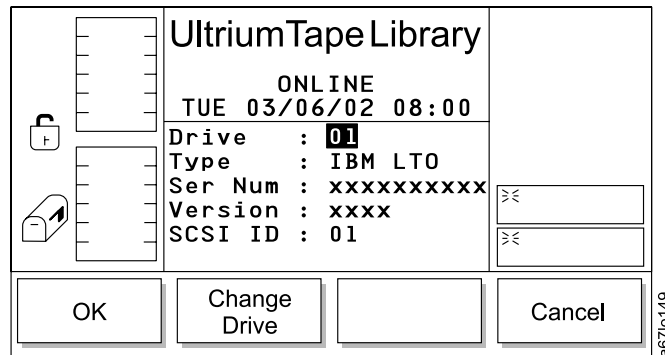

Figure 95. Drives Dialog
- If **Drives** is selected, the Drives Dialog displays (see Figure 95 on page 99).